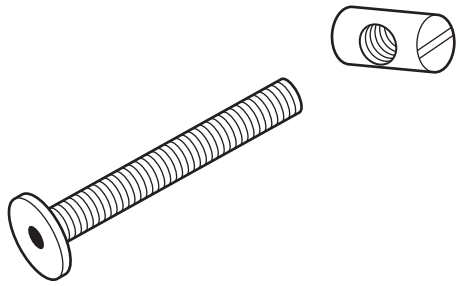

Fig. 2a
- 5 Fig. 2a shows a scan fitting.